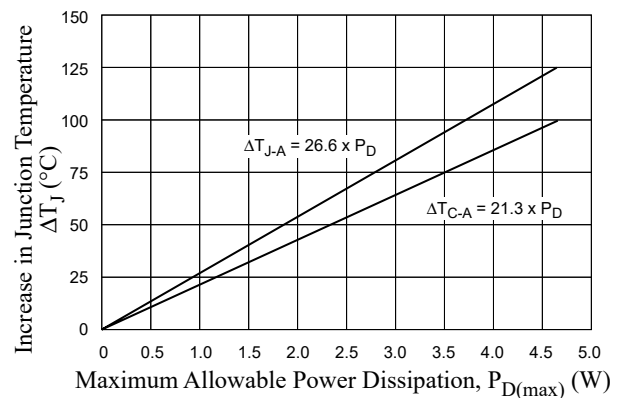

Figure 28. Temperature increase
Based on the PD calculated using the above formula, the expected increase in operating junction temperature,  $\Delta T_J$ , of the IC can be estimated using figure 28. This result must be added to the worst case ambient temperature when operating,  $T_A(max)$ . Based on the calculation, there is no problem unless  $T_A(max)$  plus  $\Delta T_J$  exceeds 150°C.
Second, estimate the loss (P) and junction temperature ( $T_j$ ) from the temperature rise with reference to figure 28, temperature increase graph. At this point, the device temperature rise ( $\Delta T_{c-a}$ ) and the junction temperature rise ( $T_j$ ) are almost equivalent under the following formula: